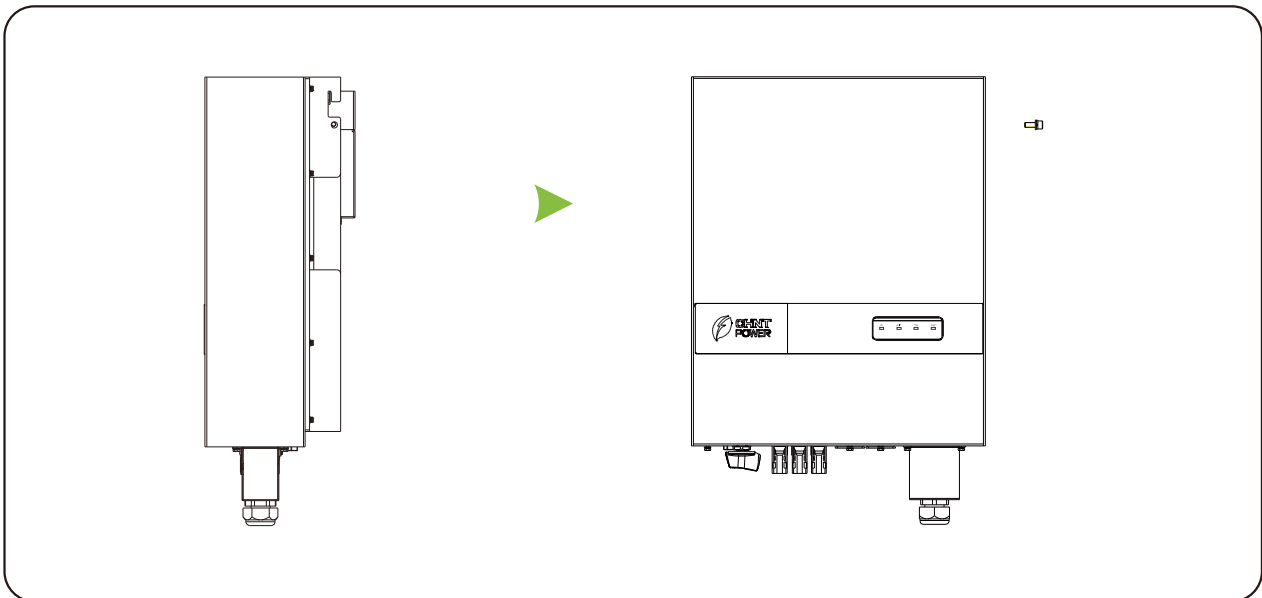

Figure 4.14 Securing the inverter
**Step 2** Tighten the screws to lock the inverter with the rear panel and ensure that the inverter is secured, as shown in Figure 4.14.